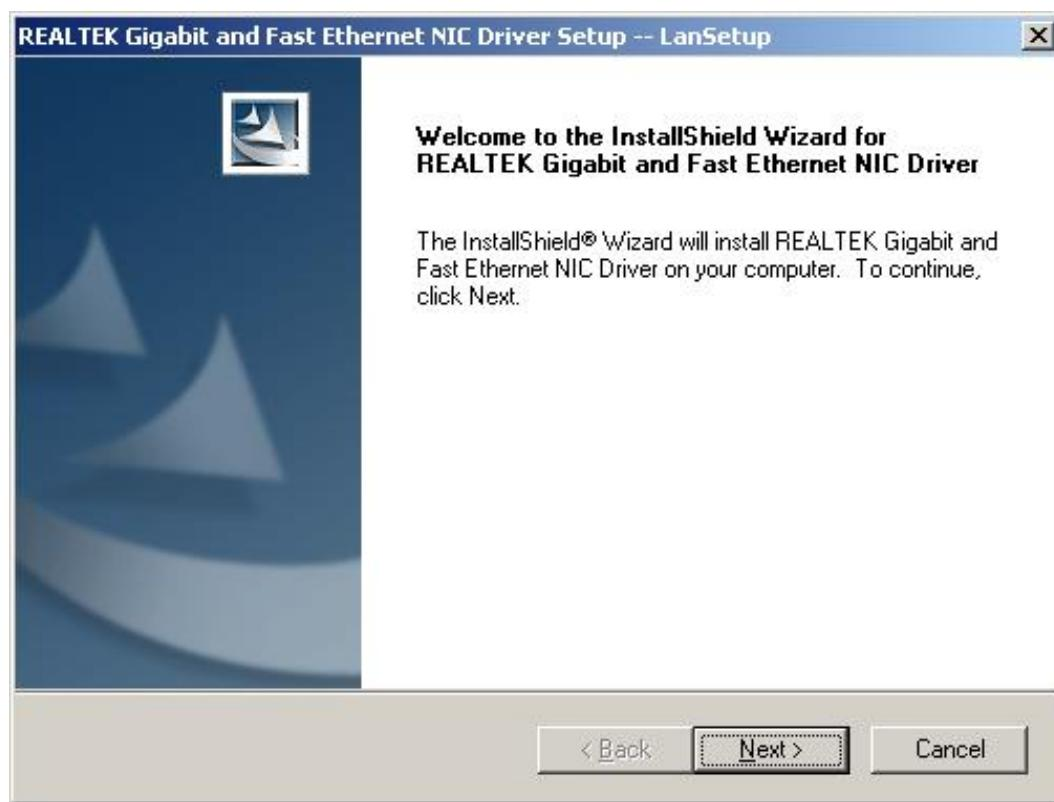

Figure 7-3: Install Wizard Welcome Screen
Step 8: Once initialized, the **Install Wizard** welcome screen appears. (See **Figure 7-3**)